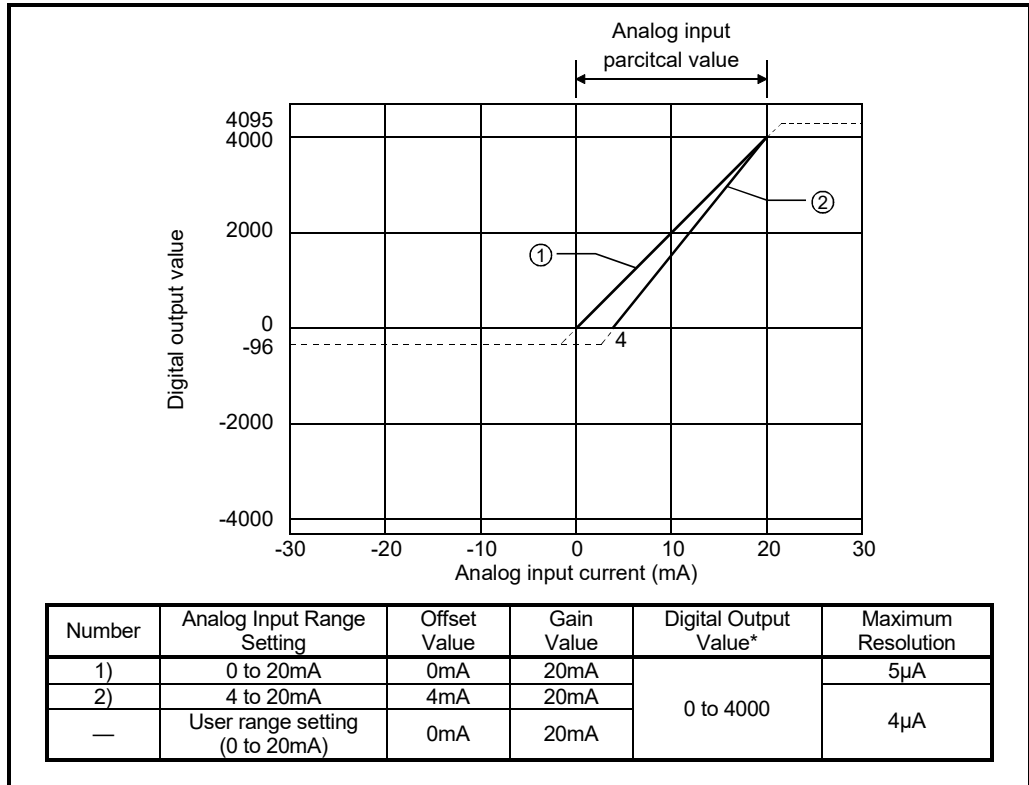

Fig. 3.2 Current Input Characteristic of the AJ65VBTCU-68ADIN
(1) Do not input more than ±30mA. A breakdown may result due to heat increase.
(2) If the analog input provided corresponds to the digital output value* beyond its range, the digital output value is fixed to the maximum or minimum. <ul style="list-style-type: none"> <li>• For 0 to 4000, the digital output value is within the range -96 to 4095.</li> </ul>
(3) Within the analog input and digital output scopes of each input range, the maximum resolution and accuracy are within the performance specification range. Outside those scopes, however, they may not fall within the performance specification range. (Avoid using the dotted line part in Fig. 3.2.)
(4) Set the offset and gain values of the user range setting within the range satisfying the following conditions. <ul style="list-style-type: none"> <li>(a) Setting range when user range setting is selected: 0 to 20mA</li> <li>(b) (Gain value) &gt; (Offset value)</li> </ul> <p>If you attempt to make setting outside the setting range of (a), the "RUN" LED flickers at 0.5s intervals. Set the values within the setting range.</p> <p>If you attempt to make setting outside the setting range of (b), the "RUN" LED flickers at 0.5s intervals. Make setting again.</p>